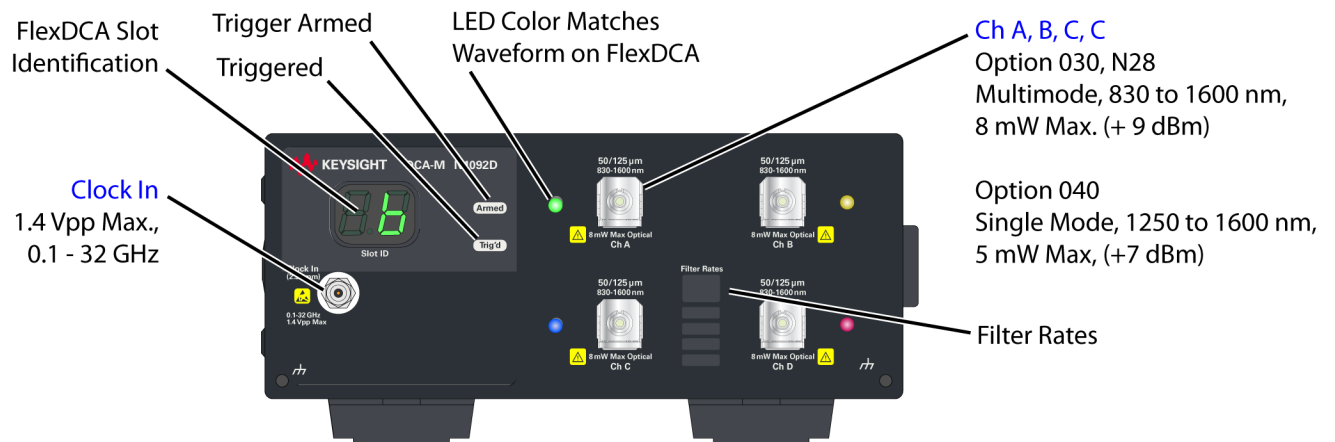

Figure 12. N1092D Front Panel
- *Figure 12, N1092D Front Panel*, on page 35